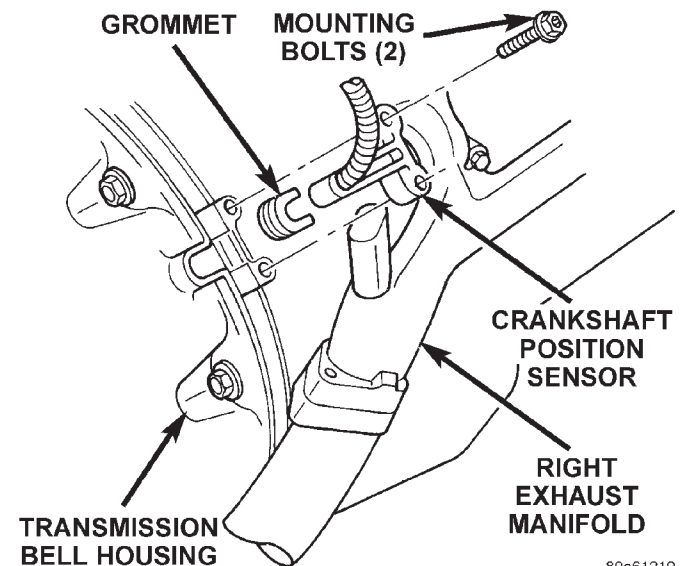

Fig. 46 Crankshaft Position Sensor
The sensor is bolted to the top of the cylinder block near the rear of right cylinder head (Fig. 46).
- (1) Remove the air cleaner intake tube.
- (2) Disconnect crankshaft position sensor pigtail harness from main wiring harness.
- (3) Remove two sensor (recessed hex head) mounting bolts (Fig. 46).
- (4) Remove sensor from engine.